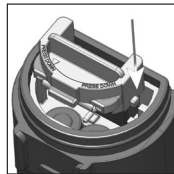
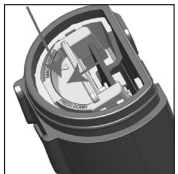

Fig. 3: Align tabs
Fig. 4: Push down to lock
- 4. To lock the battery plate, align the small tabs (Figure 3) into the guide ribs on the housing and then press down. See Figure 4.